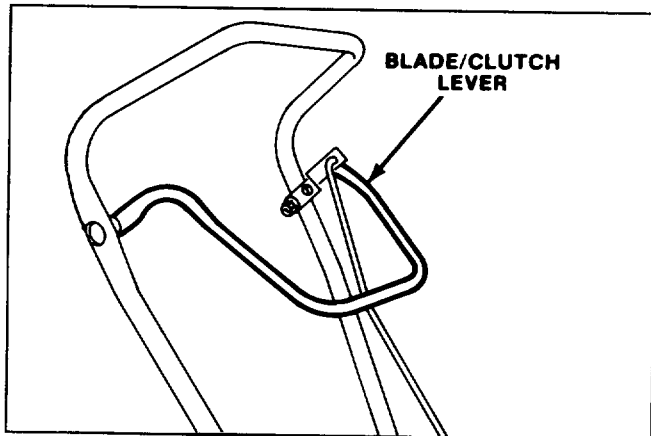
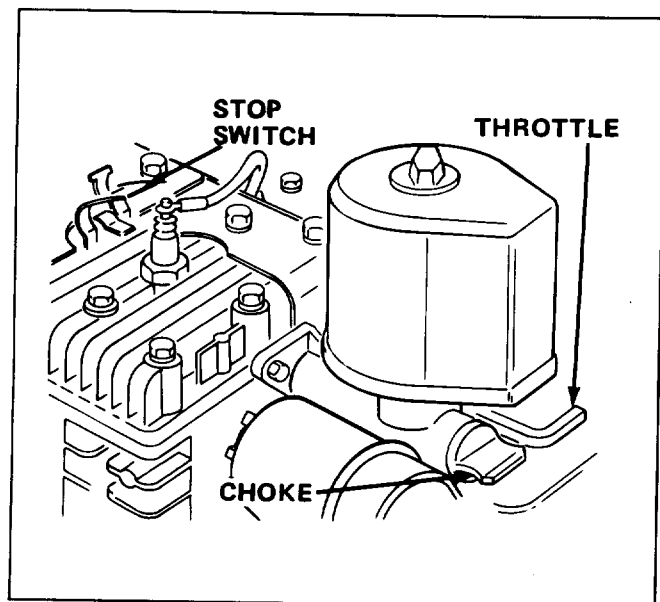
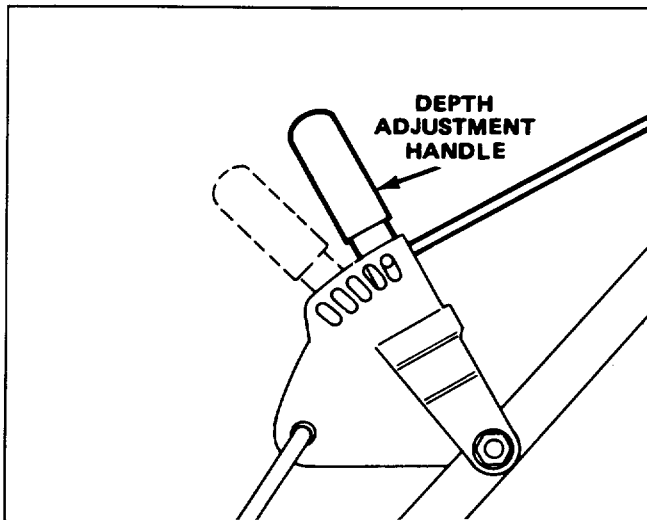

Figure 6
Figure 7
Figure 10
1. **CONTROLS**—Blade/clutch control bar is on upper handle (Fig. 6) and depth adjustment handle is on left side of upper handle (Fig. 10). Throttle, choke and stop switch are engine mounted (Fig. 7).
3. **EDGING**—Squeeze blade/clutch control bar (Fig. 6) against handle to engage blade and move
4. **STOPPING**—Release blade/clutch control bar (Fig. 6) and push engine stop switch against spark plug.
3. ADJUSTING DEPTH (Fig. 10)—Release blade/clutch control rod. Move depth adjustment handle forward to increase blade depth and rearward to decrease blade depth.